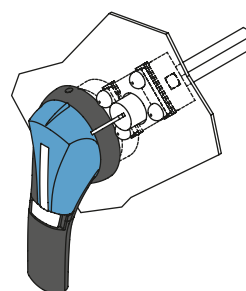

Fig. 3
- using RONIS EL11AP or CASTELL type K-type lock in external front operation (Fig. 3),